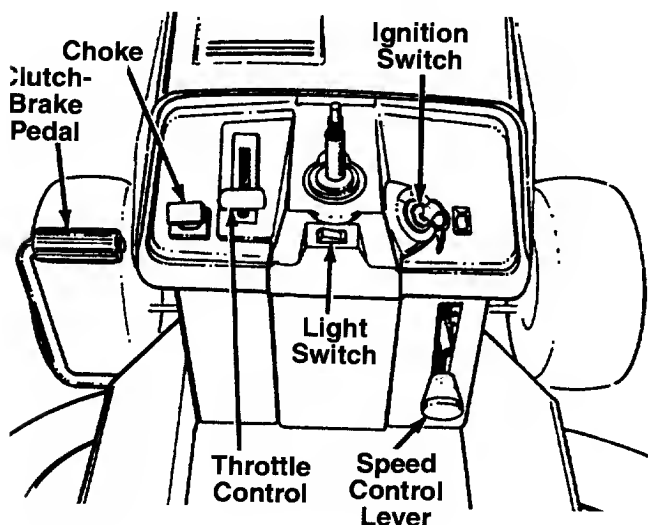

FIGURE 6.
The throttle control is used to regulate the engine speed. To get maximum efficiency from cutting, the throttle should be in the FAST position when operating the mower. See figure 6.
The choke control is located on the dashboard and is operated manually. Details for the choke operation are covered in the separate engine manual packed with your unit. See figure 6.
The speed control lever allows you to regulate the ground speed of the lawn tractor. See figure 6. To select the ground speed, depress clutch pedal. Push speed control lever inward and move downward to slow lawn tractor, move upward to increase speed.
Turn the key to the START position to start the engine. When the engine is running, let the key return to the ON position. To stop the engine, turn the key to the left to the OFF position and remove it to prevent accidental starting. See figure 6.
Push the light switch to turn on the lights. The lights will only operate when the engine is running. See figure 6.
The clutch-brake pedal is located on the left side of the lawn tractor. Depressing the clutch-brake pedal part way disengages the clutch. Pressing the pedal all the way down disengages the clutch and engages the disc brake. See figure 6.
3. Set the throttle control in the FAST position. See figure 6.
5. Turn the ignition key to the START position. When the engine is running, let the key return to the ON position. See figure 6.